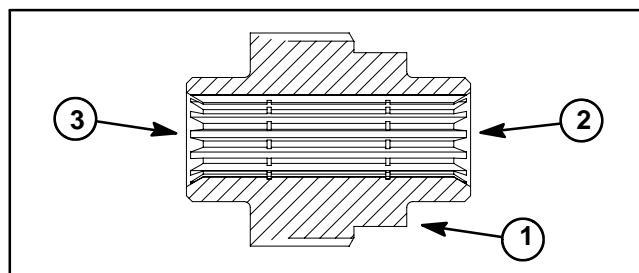

Figure 54
2. If splined brake shaft was removed from brake assembly, make sure that the stepped end of the shaft is aligned toward the hydraulic wheel motor (Fig. 54). Also, make sure that splines engage rotating discs in brake assembly.
3. Install O-ring (item 9) onto motor. Position wheel motor to brake assembly.